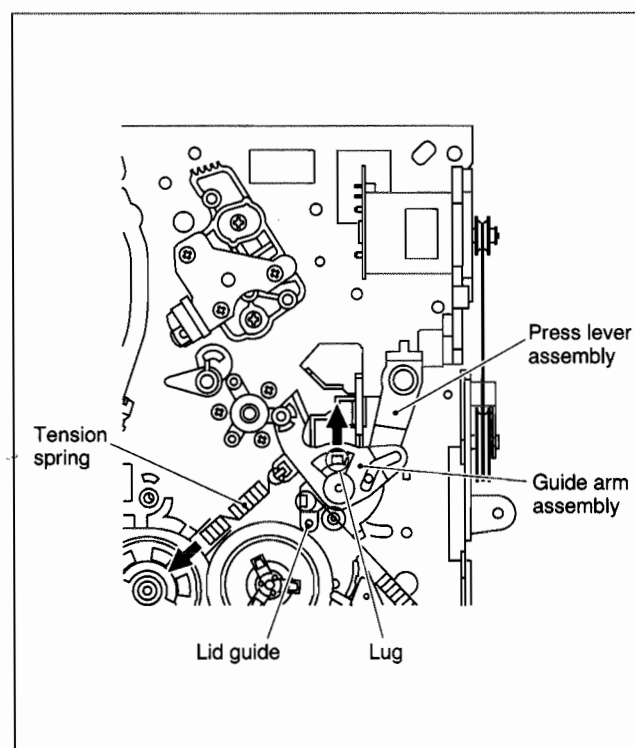

Fig. 2-2-12
- (1) Remove the spring and expand the lug of the lid guide in the arrow-indicated direction. Then remove the guide arm assembly by pulling it up.
- (2) Remove the press lever assembly by pulling it up. (See Fig.2-2-12.)